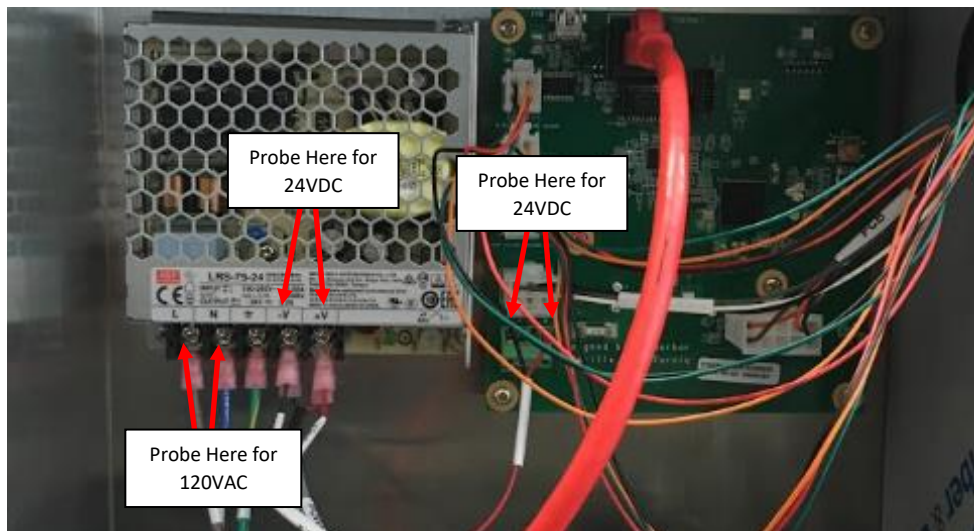

Figure 5: Probe locations shown.
- b. If the PCB lights are off, a DVOM can also be used to verify that the Power Supply output (-V and +V) have a 24VDC output. **See Figure 5.**
- c. Verify the power input terminal on the PCB itself. If there is power at the Power Supply Output but not at the PCB, the harness is damaged and needs to be replaced **See Figure 5.**
- d. If the Power Supply output does not have power, check the Power Supply input by probing between the L and N terminals on the Power Supply. If the reading between the L and N terminals is at wall output(115VAC-127VAC) but the output has no voltage, the Power Supply is damaged and needs to be replaced. **See Figure 5.**